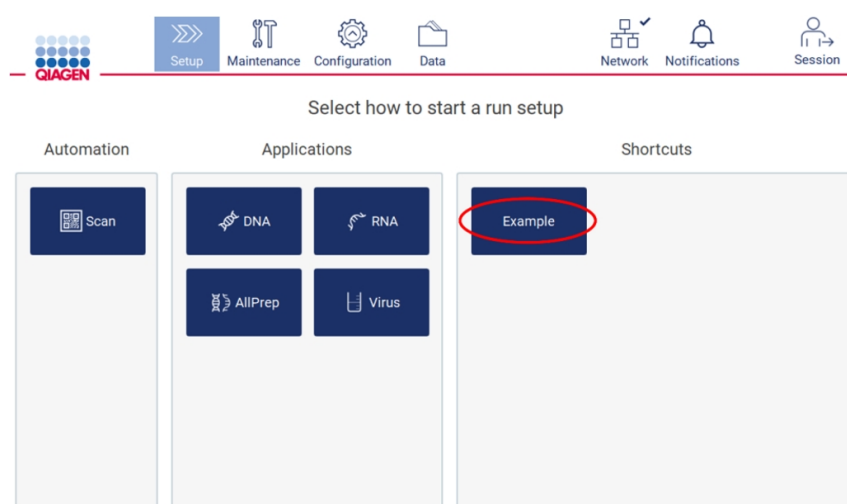

Figure 119. Setup screen with a shortcut (red circle).
1. Tap the saved shortcut icon in the Setup screen (Figure 119). The shortcut icon has the name that was chosen during the creation of the shortcut (Section 5.6.1 Creating a shortcut).